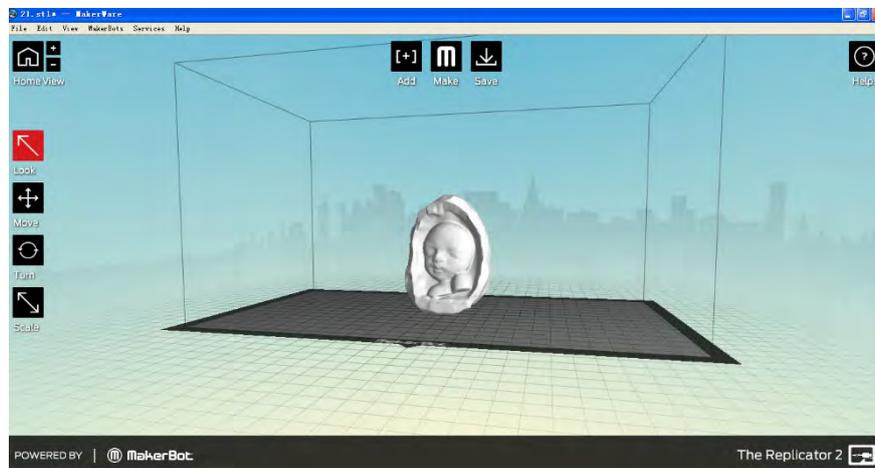

Fig. J-6 3D printer client interface
- 2) Open the 3D printer client, with the screen as shown in Fig. J-6.